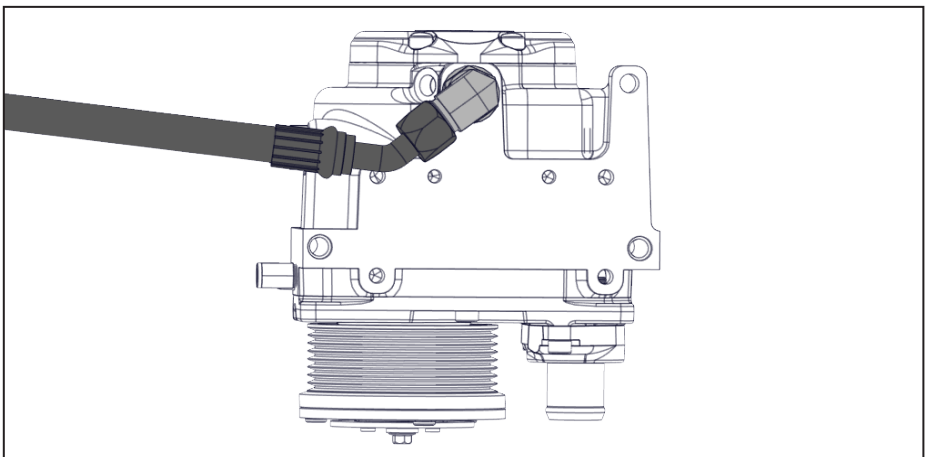

Figure 12 — Compressor discharge fitting
- Install the 45° fitting from the 1/2 in x 24 1/2 in discharge hose onto the compressor discharge fitting. Orient the hose in the same direction as the #6 JIC oil fitting on the side of the compressor and tighten the hose securely (Figure 12).